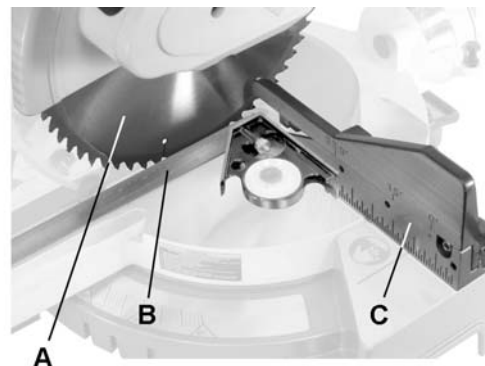

Figure 17
3. Using a *square* (B, Fig. 17), lay the heel of the square against the *fence* (C, Fig. 17) and the ruler against the *blade* (A, Fig. 17).